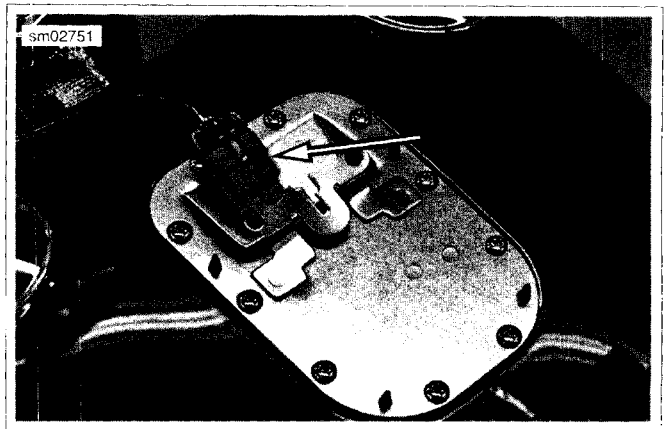

Figure 4-6. Fuel Pump Module Connector (Typical)
8. See Figure 4-6. Unplug fuel pump module connector [86].
6. See Figure 4-6. Connect fuel pump module connector [86].
6. See Figure 4-6. Connect fuel pump module connector.